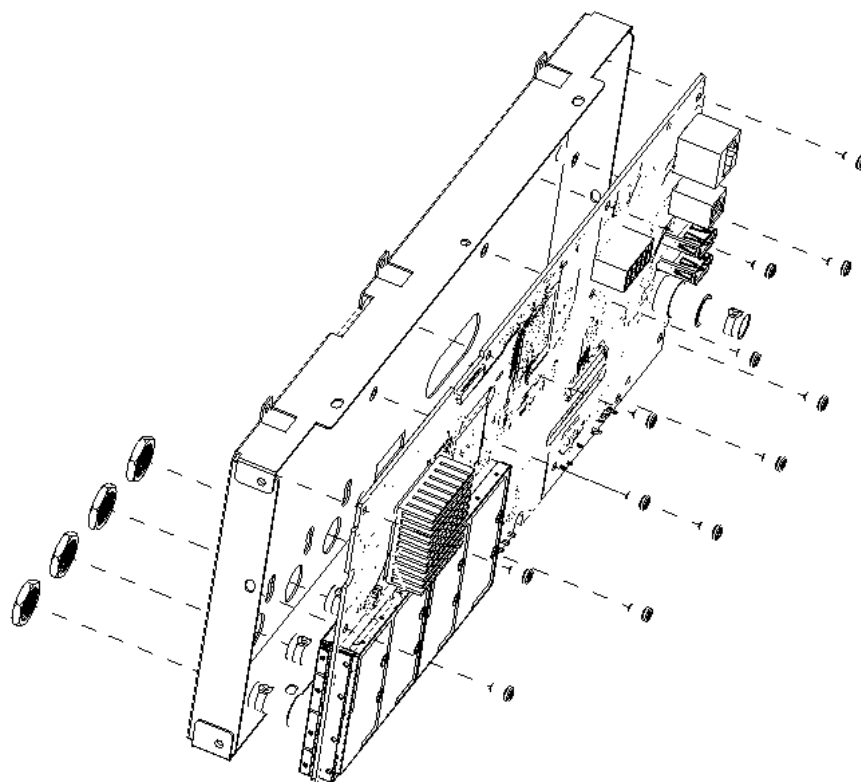

Figure 14 To remove the mainboard
1. Connect the selected channel of the oscilloscope to the 9500B, as shown in Figure 14.